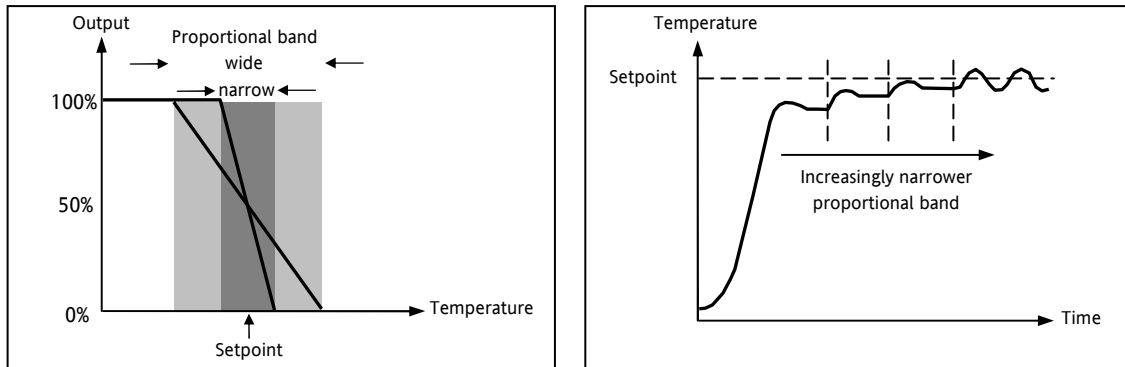

Figure 17-2: Proportional Action
The proportional term, or gain, delivers an output which is proportional to the size of the error signal. It is the range over which the output power is continuously adjustable in a linear fashion from 0% to 100% (for a heat only controller). Below the proportional band (PB) the output is full on (100%), above the proportional band the output is full off (0%) as shown in Figure 17-2.
Figure 17-2 also shows the effect of narrowing proportional band to the point of oscillation. A wide proportional band results in straight line control but with an appreciable initial error between setpoint and actual temperature. As the band is narrowed the temperature gets closer to setpoint until finally becoming unstable.